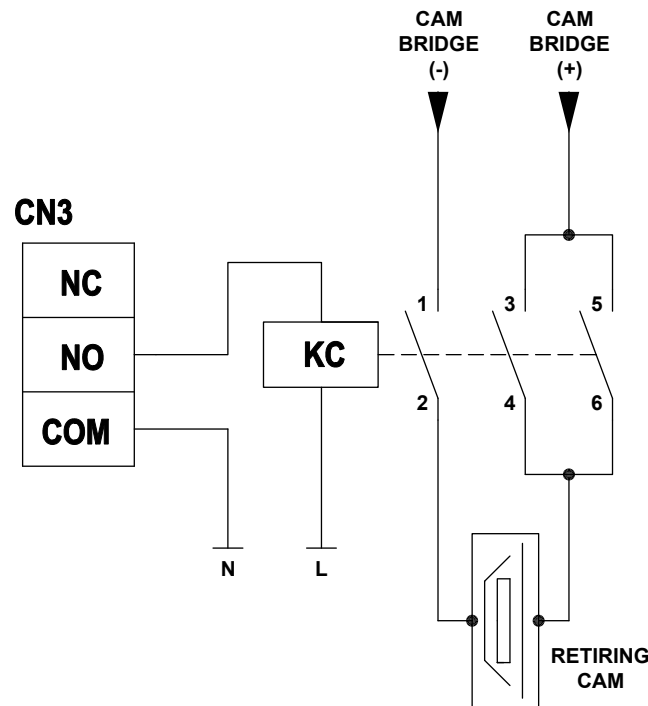

Figure 9.0 - Manual Door Connections
The Manual Door operating terminals are wired and connected as illustrated in Figure 9.0.
- For Manual Doors operating through a Retiring CAM, the external CAM contactor is connected to the XC-GL series as illustrated in Figure 9.0.
- The Retiring CAM is operated by the DC voltage of the external bridge through the contactor as illustrated in Figure 9.0.